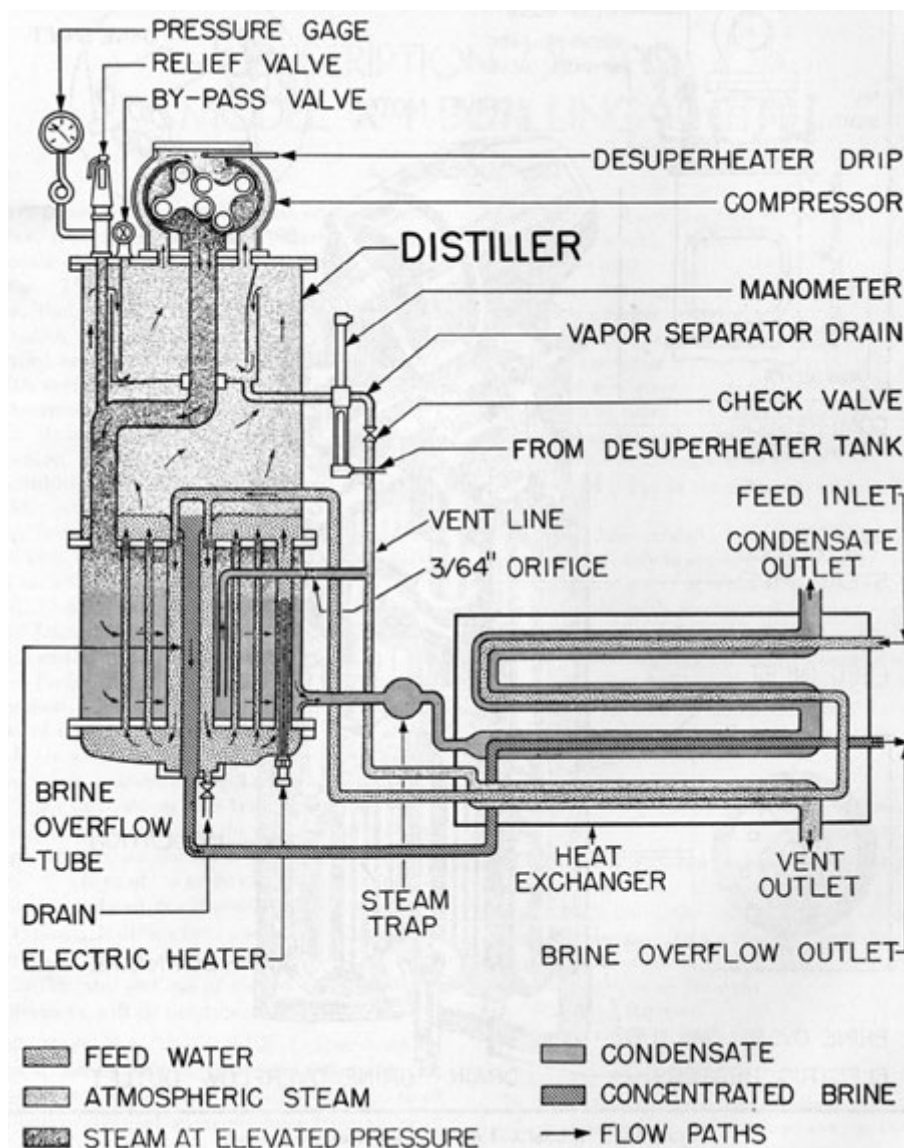

Figure 6-2. Model X-1 distilling unit (schematic view).
evaporator, while Figure 6-2 is a schematic diagram of a unit with external heat exchanger. The heat exchanger is illustrated in Figure 7-5.
**6A4. Flow of water.** (See Figure 6-2.) With the unit operating, the cycle will be as follows:
**7A6. Overflow.** The overflow is a 1 3/4-inch o.d. pipe which is inserted inside the downtake (Figure 6-2). At the top of this overflow pipe is brazed a 4-inch funnel. The top of the funnel is 2 inches above the top of the steam chest, maintaining the liquid level in the
containing similar baffles (Figure 6-2). The vapor, entering at the top of the separator, descends between the walls, and enters the separator chamber from where it travels upward to the compressor suction.